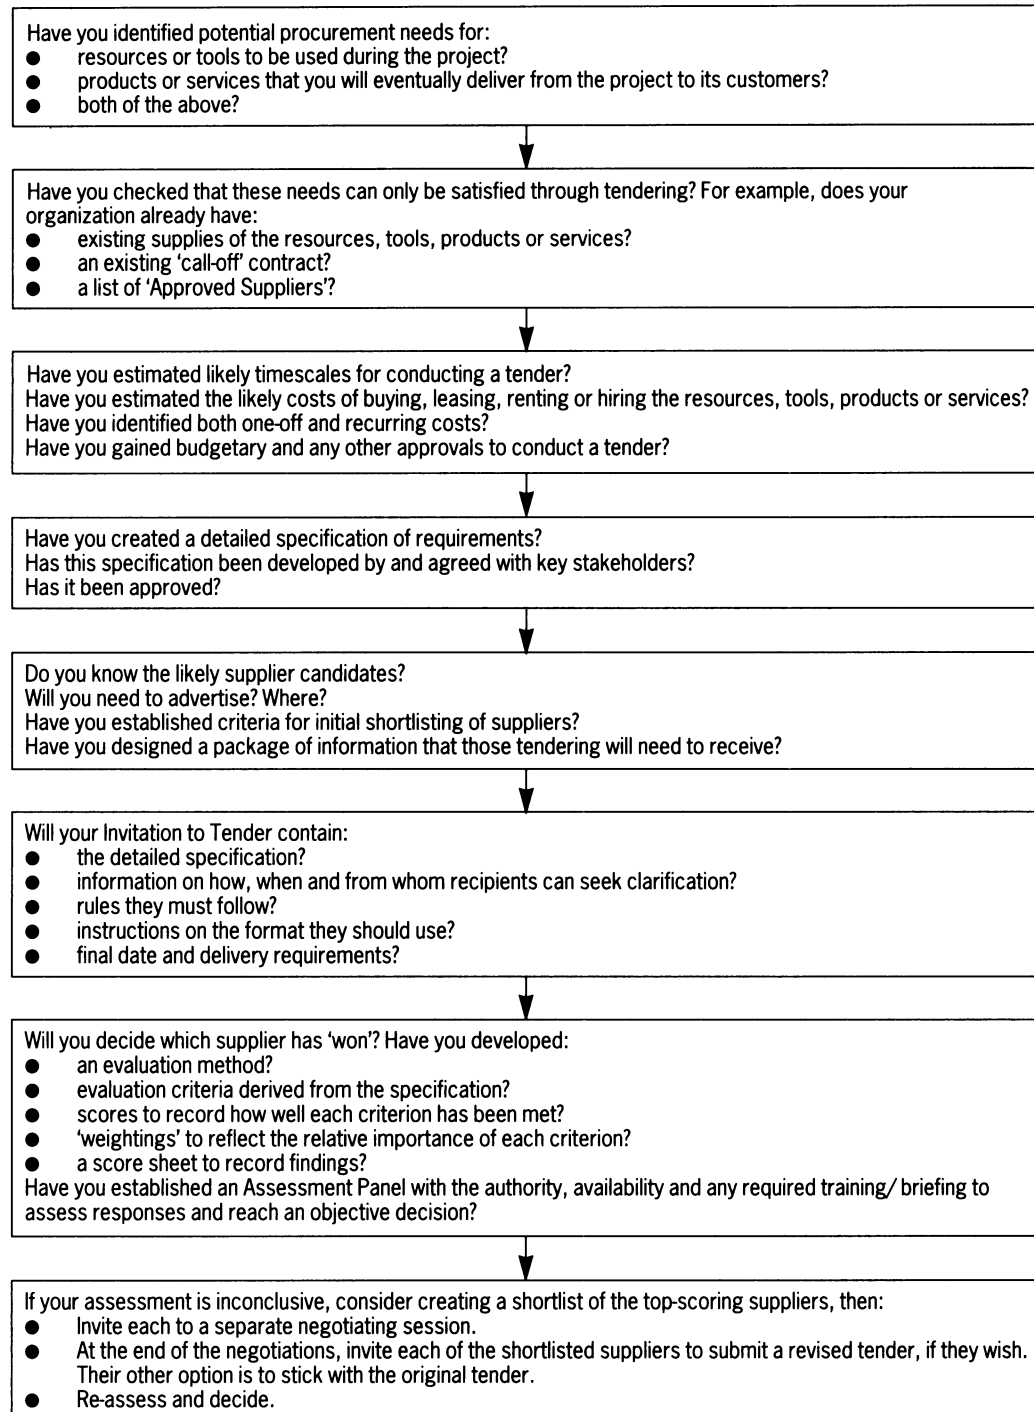

Figure 58 Sample process flow for competitive tenders
- If you work in the public sector, are you aware of the requirements under European Community (EC) and General Agreement on Tariffs and Trade (GATT) regulations for procurement above specified financial thresholds?
- Consider using the flowchart in Figure 58 on the following page as a prompt.
See Figure 58 for a sample process flow for competitive tenders.